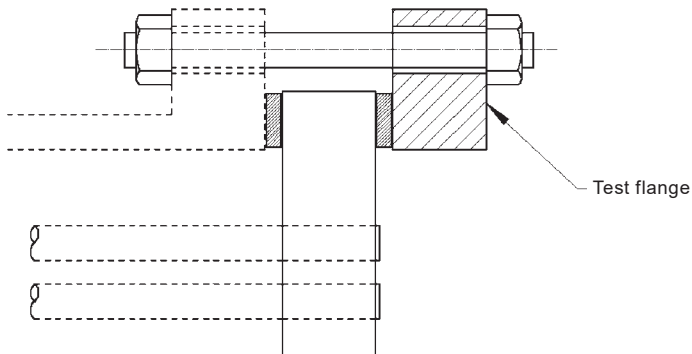

Fig. 10
- a. Remove the head and replace it with a test flange (see Fig. 10) that mates with the shell flange. Bolt the test flange in order to block the tube bundle.